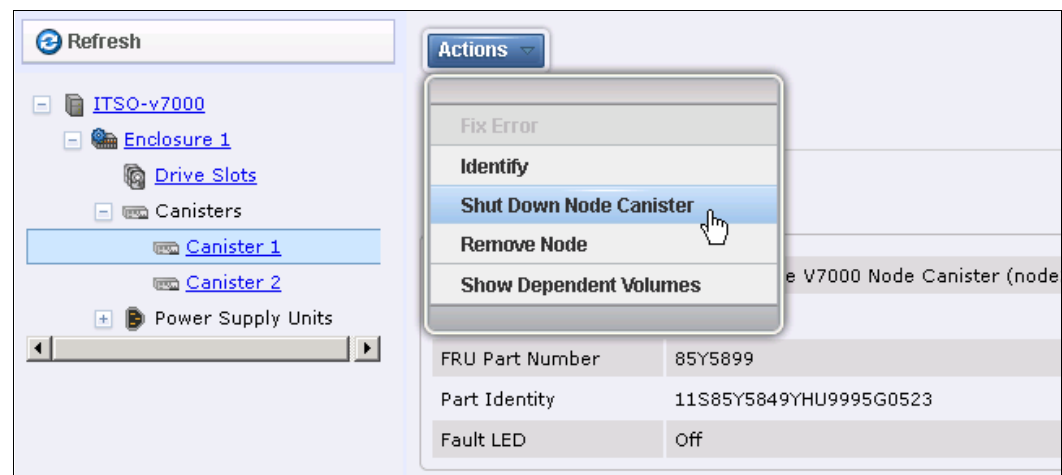

Figure 13-51 Shut Down Node Canister option
2. Expand the **Canisters** section on the left and select the canister that you want to stop. Click **Actions** → **Shut Down Node Canister** (Figure 13-51).